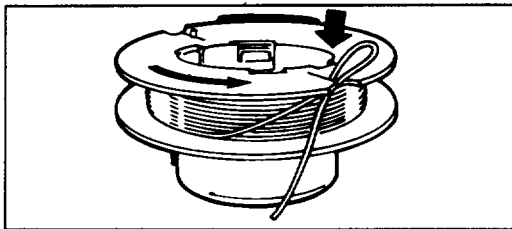

Figure 19
- C. Keep line tight on spool by making a hook in the line and secure in groove (Fig. 19).